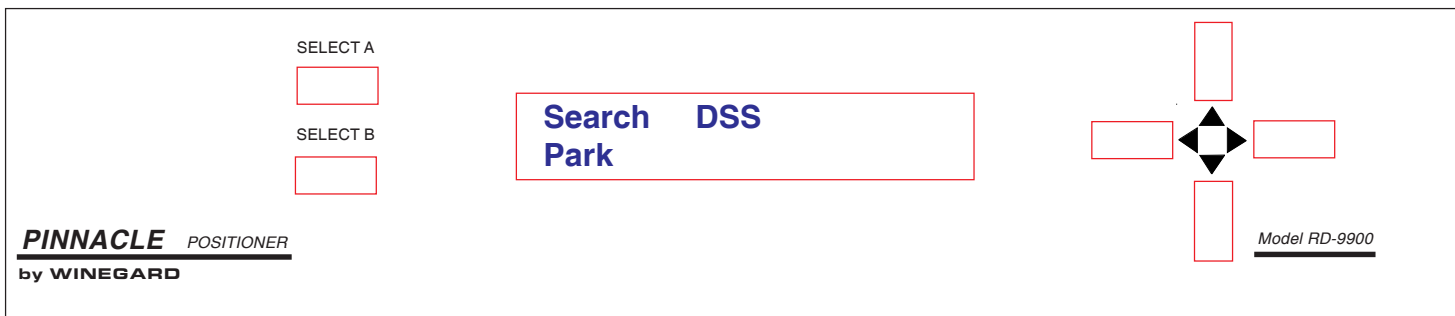

Figure 15
Optional RD-9911 Warning Device Refer to Figure 15, Page 14 for operation and installation.
14. Verify that antenna is in the travel position (see Figures 2 and 3) when **Collapsing System** is replaced with normal menu, Figure 15.